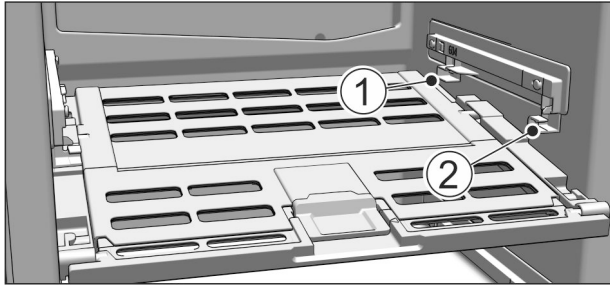

Fig. 71
- ▶ Replacing the Fruit & Vegetable safe cover: Guide the ridges on the cover into the rear brackets Fig. 71 (1) and click it into the front bracket Fig. 71 (2).